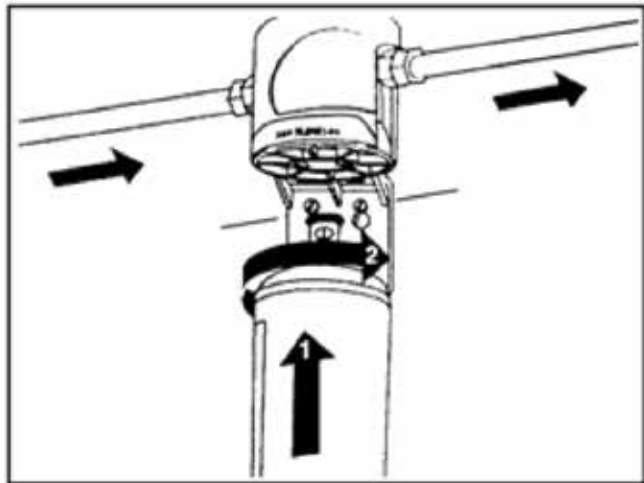

Figure 3
1. Remove sanitary cap from cartridge. Install cartridge with a quarter turn to the right until cartridge comes to a complete stop. (A “click” is heard). See “Figure 3”.